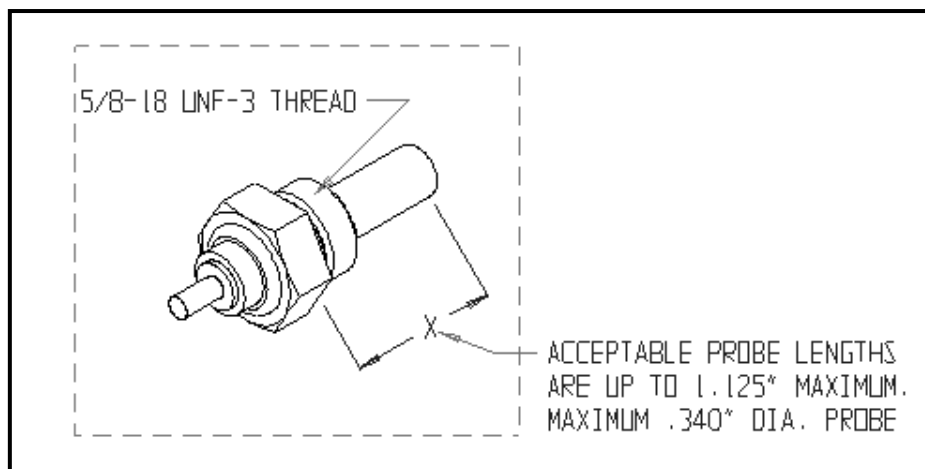

Figure 3
12. The hole (if provided) for the oil temperature sender is tapped 5/8-18UNF to accommodate P/N MS28034-1 temperature sender. If this hole is not used for an oil temperature sender, B&C Part Number 708-305-1 Plug, must be installed instead of the temperature sender to plug the hole. Check Figure 3 for maximum temperature probe size.